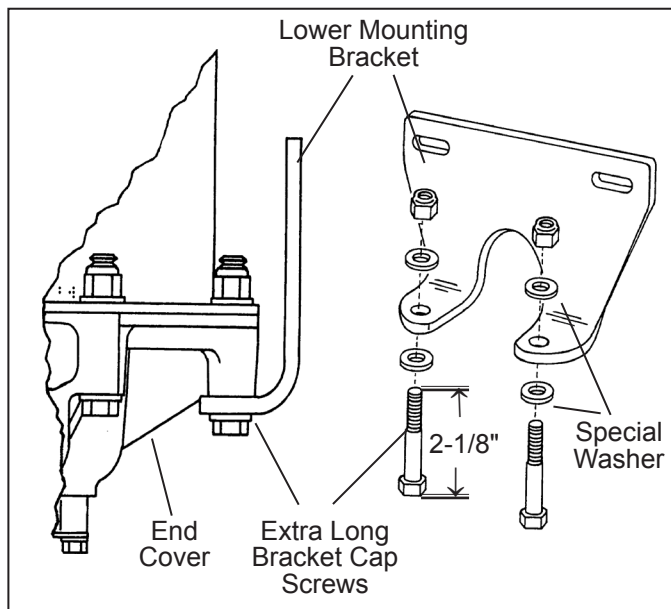

Figure 14 – Lower Mounting Bracket Installation
1. Install the assembled air dryer back onto the vehicle by slipping it into the upper mounting bracket. Align the two unused holes in the end cover with the bottom mounting bracket such that the bottom bracket supports the air dryer. The air dryer end cover should rest on the bracket. Using the remaining two 3/8" cap screws, four special washers, and two locknuts, secure the air dryer to the lower bracket. Tighten, then torque the two remaining cap screws to 270-385 in-lbs. See Figure 14.